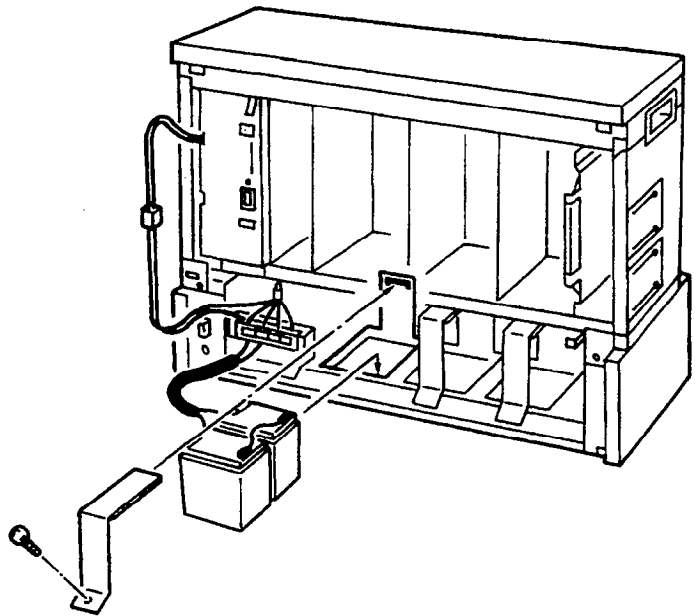

Figure 3-59 Placing the Batteries in the Battery Box
2. Install the battery hold-down plate and tighten the screw. Refer to Figure 3-59 - Placing the Batteries in the Battery Box.